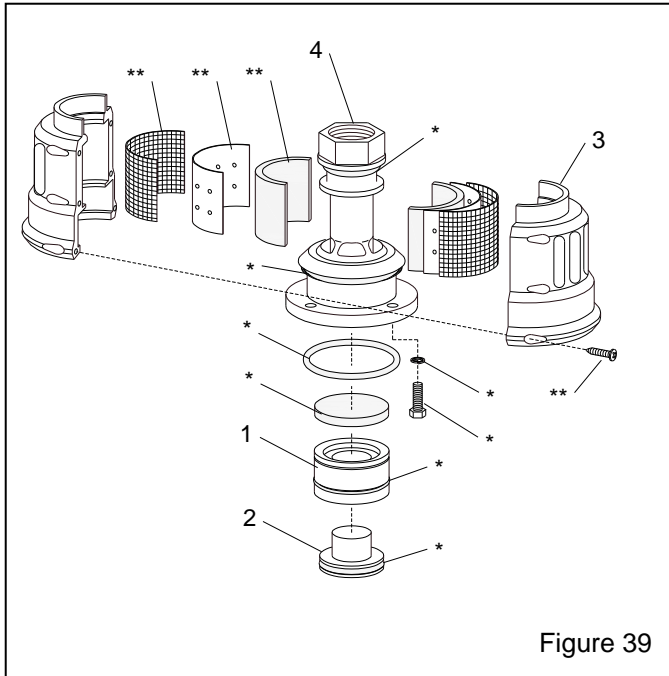

Figure 39
8.7 Millennium Valve Outlet Segment, Figure 39